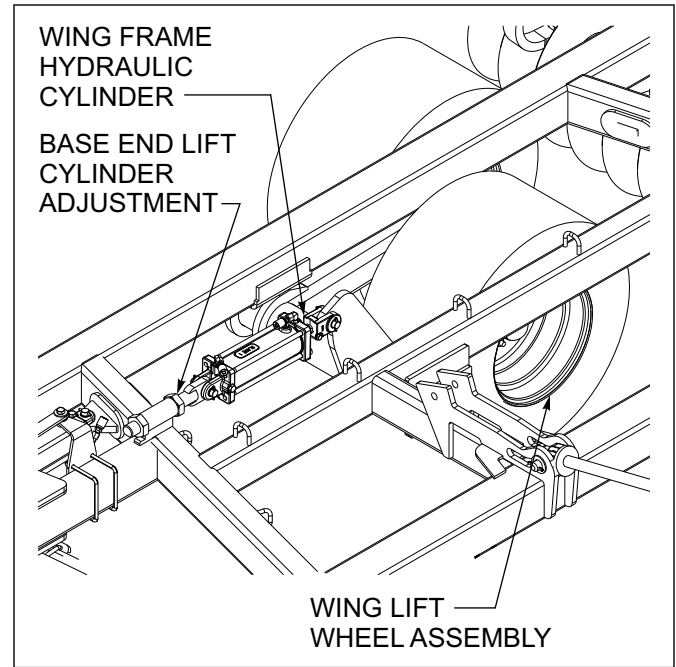

Figure 4-10: Wing Lift Adjustment
- f. Adjusting the anchor at the base end of each wing lift cylinder sets wing frame height (**See Figure 4-10.**)